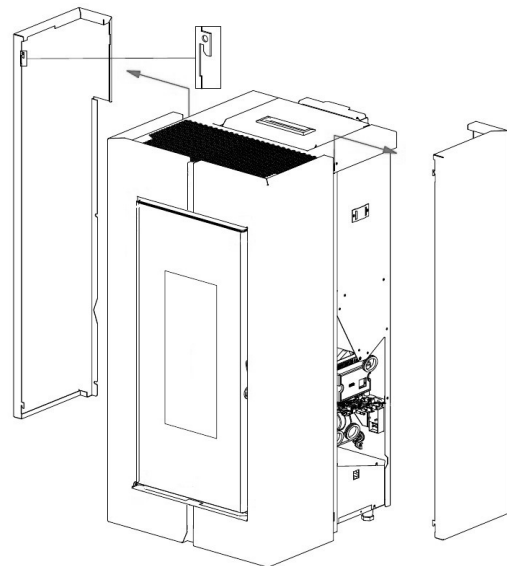

Fig. 53 - Unhook the side panels
- Unhook the back side panels (see **Fig. 53**).